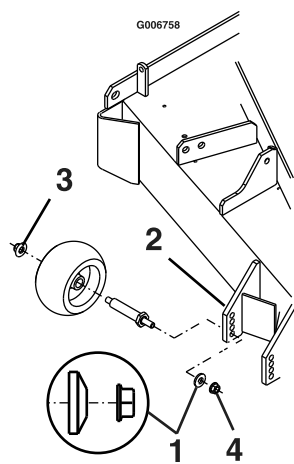

Figure 18
8. Torque the 3/8-16 whizlock nut to 30-35 ft-lb (41-47 N-m) (Figure 18).